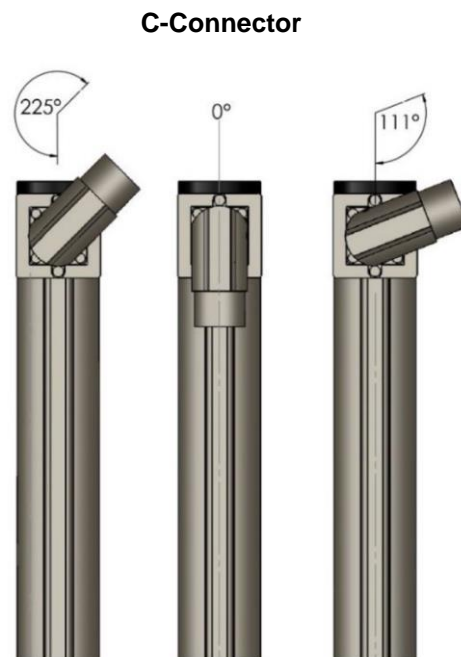

Fig. 14 Setting the C-motor connector (ES40 modules)
If C-motor connector are provided for the ES40 modules, the C-connector can be rotated in both directions (see Fig. 14). In this case, the maximum rotatability of the C-connector must be observed.
- If it is necessary to adjust the connector, always observe the maximum permissible rotatability (see Fig. 14).